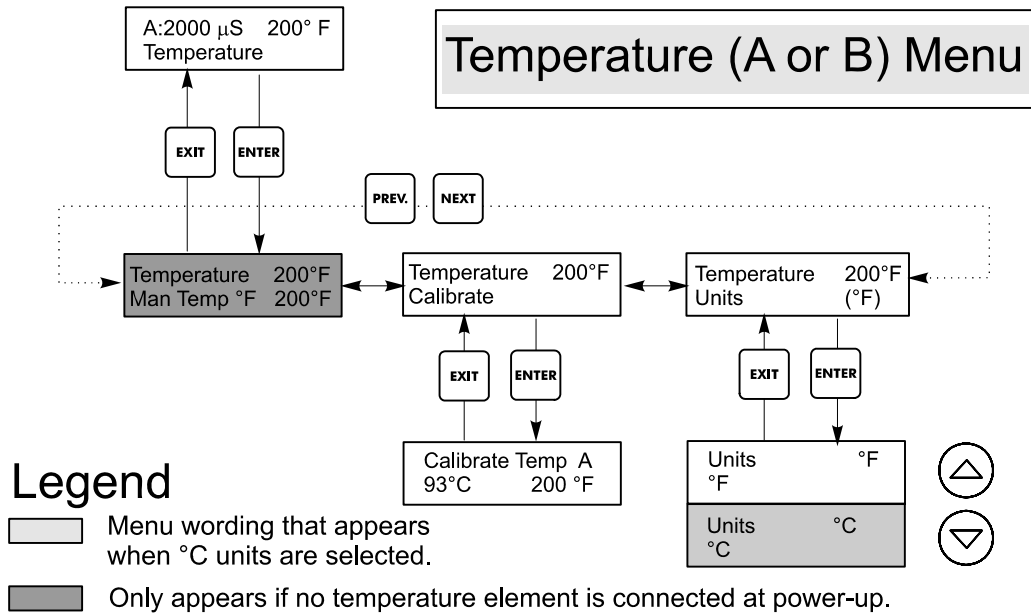

Figure 9 Temperature (A or B) Menu
- Temp Error Indicates that there is a problem with the temperature input. See Figure 9.